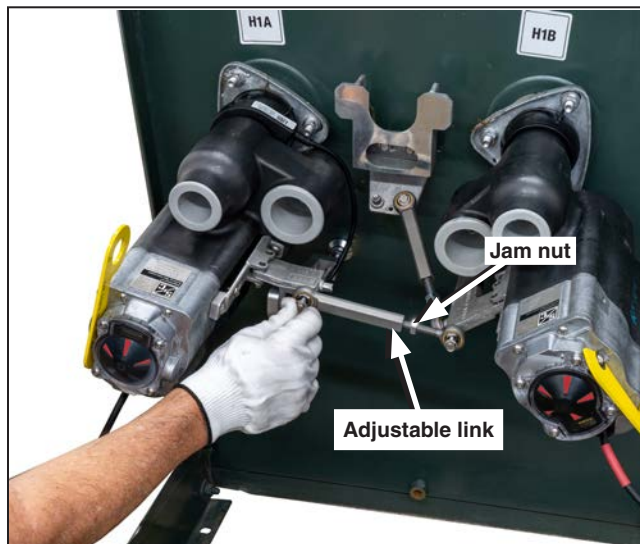

Figure 26. The adjustable cross-brace link.
- STEP 1.** Install the adjustable cross-brace link onto the H1B bushing well interrupter boss with the $\frac{1}{4}$ -20 \times $\frac{5}{8}$ -inch flange-head bolt finger tight, as shown in Figure 26.